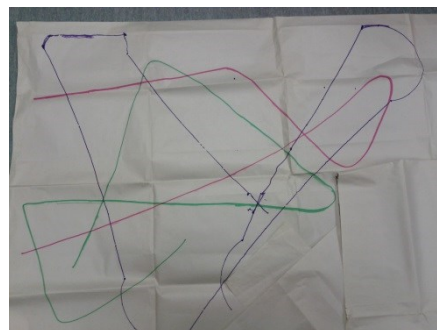

Figure 1
- Student draws pathways after practicing using the Robot pen on a scrap piece of paper. Then measures the pathways with Robot and string. See Figure 1